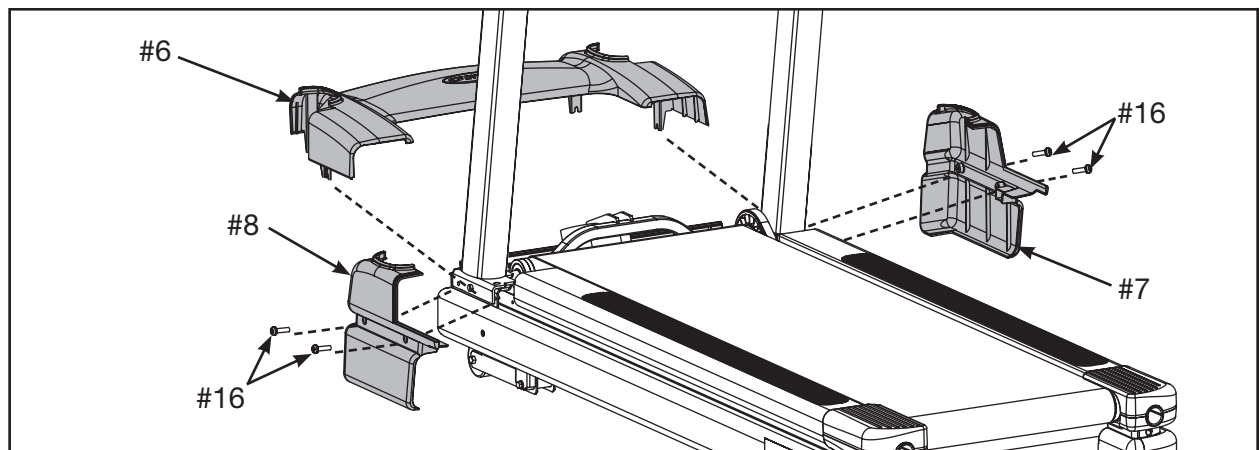

Figure 11
B. Place the motor cover center (#6) into position. See Figure 11.